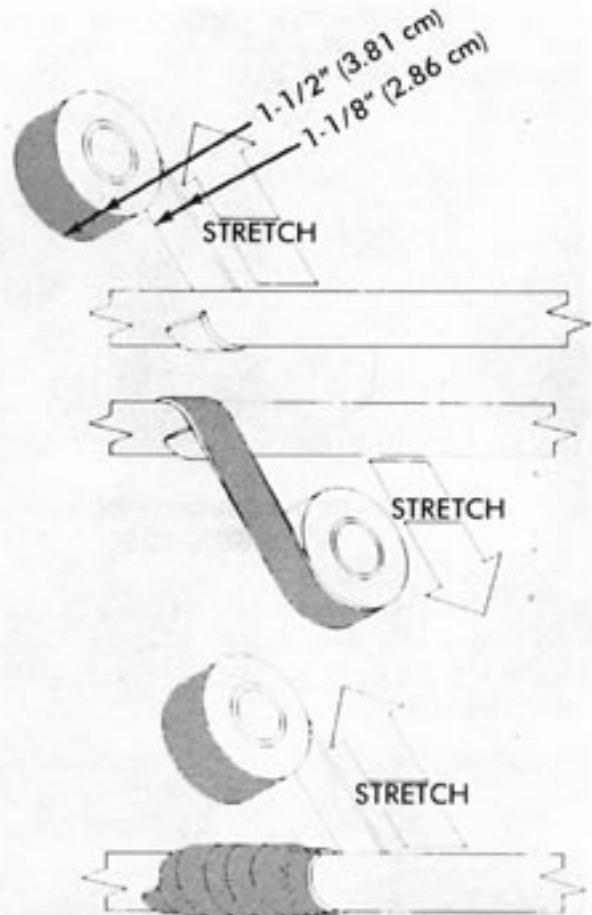

FIGURE 16 - APPLYING LOCK-TAPE™ SEALANT
7.02 Half lap 1-1/2" LOCK-TAPE Sealant around cable (black side up) in area of cable coated with C-Cement. Stretch tape while applying. Use one or two half lapped layers as determined by the measurement (Figure 16).